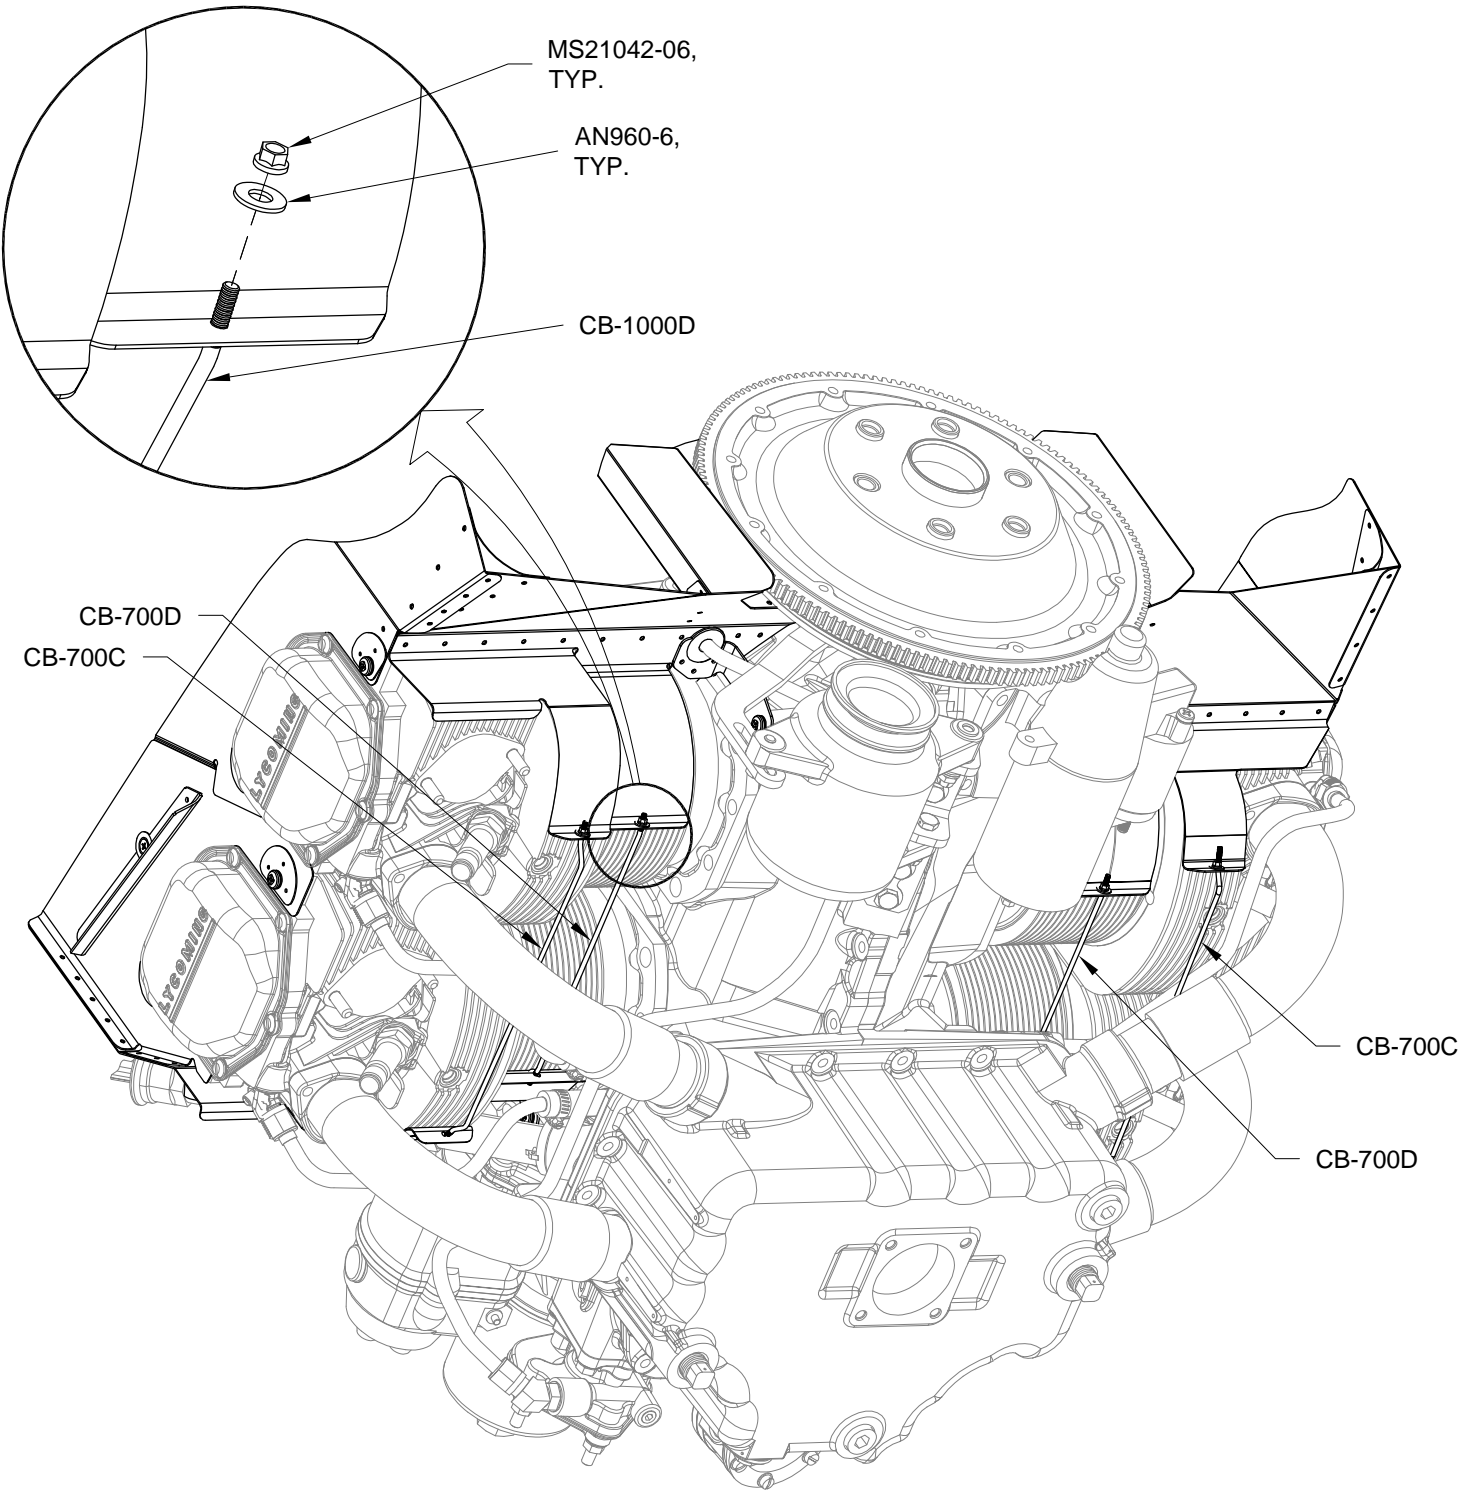

FIGURE 3: INSTALLING THE TENSION RODS
Step 6: Install both CB-700C Outbd Tension Rods using the hardware shown in Figure 3.